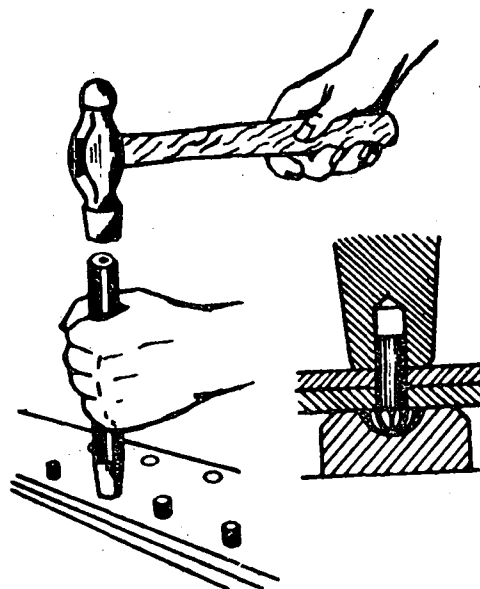

Fig. 4
- c) Bring the parts together by using the set and hammer (Fig. 4).